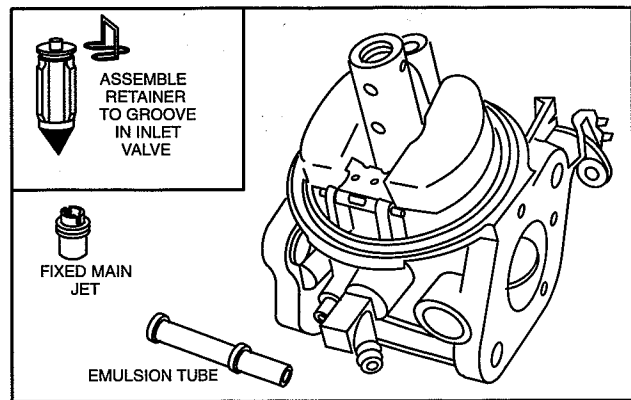

Fig. 20 – Install Float
13. Assemble inlet needle retainer to inlet needle and assemble to float, Fig. 20.